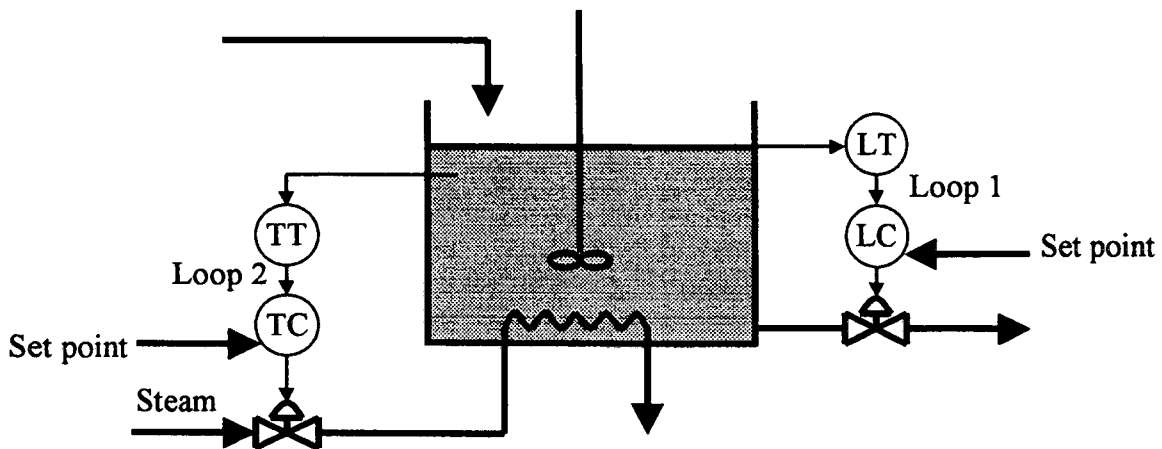

Figure 4. Stirred tank heater with two control loops.
- v) Consider the stirred tank heater given in Figure 4. The effluent flow rate is used to control the liquid level (loop 1) and the steam flow rate to control the tank temperature (loop 2). The input stream is coming from an upstream unit and may vary both in flow rate and temperature. Explain how the two control loops may interact for this system. [8]